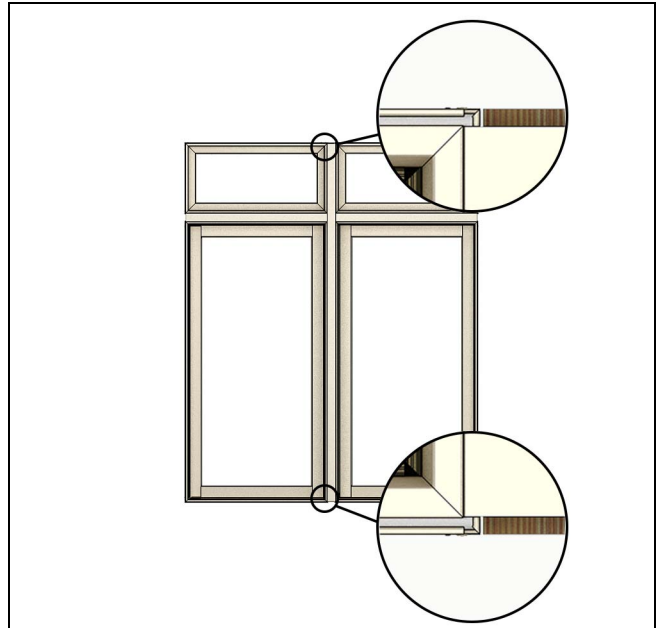

Figure 34 Mull cover: measure to the inside of the accessory kerf.
4. If not done already cut the mull covers to length. Measure to the inside of the accessory kerf. Set these aside until sealant application is complete. See Figure 34.